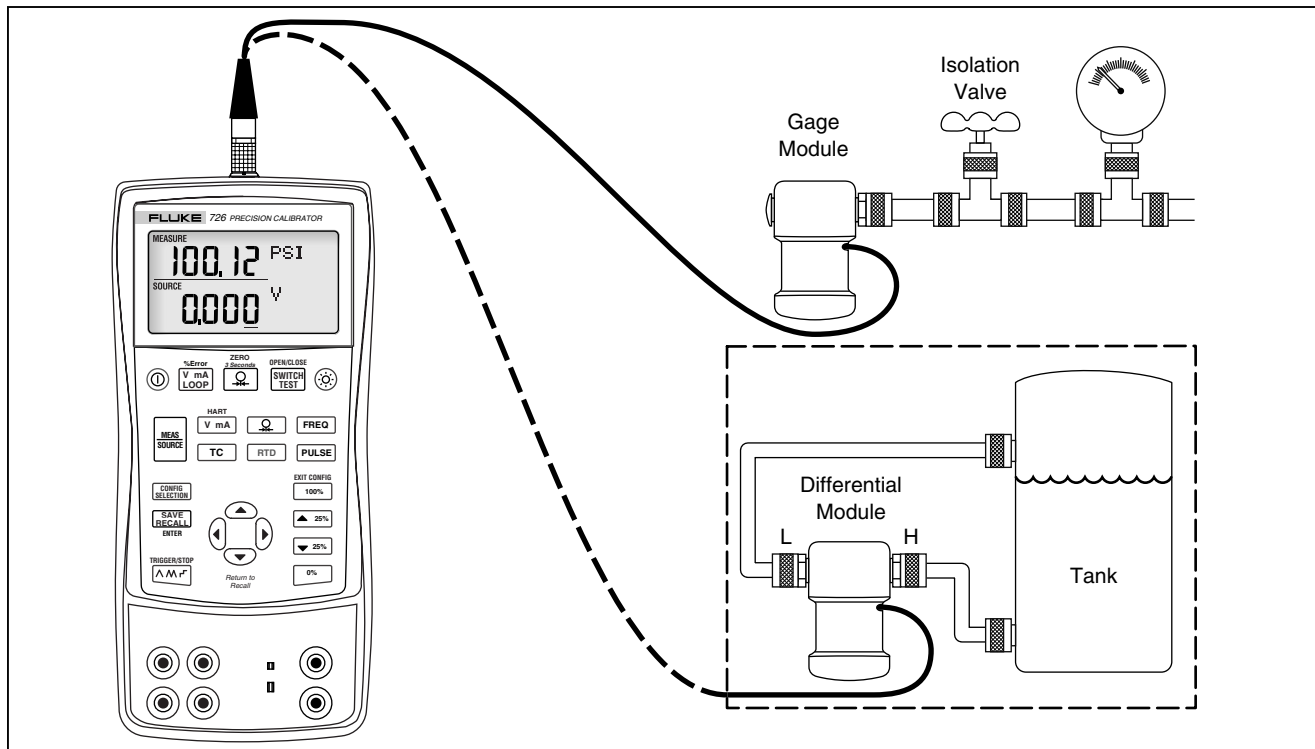

Figure 13. Connections for Measuring Pressure
1. Connect a pressure module to the Calibrator as shown in Figure 13. The threads on the pressure modules accept standard ¼ NPT pipe fittings. Use the supplied ¼ NPT to ¼ ISO adapter if necessary.